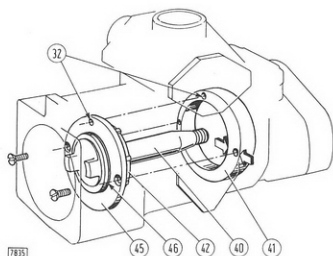

Fig. 59 - Transfer Pump Cam Ring in Assembled Position
- Transfer pump cam ring (41, Fig. 59) is to be positioned with hole (32) at the top and with the thickest wall thickness (arrowed) facing the timing cover.